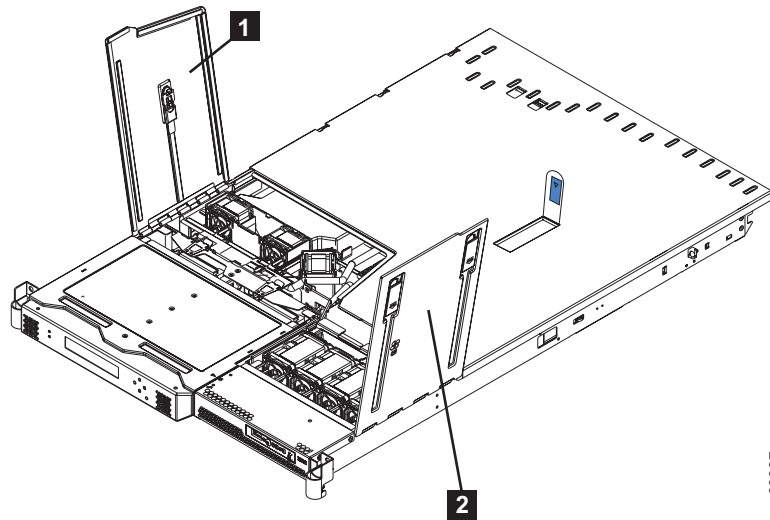

Figure 47. SAN Volume Controller 2145-8F2 with fan doors open
3. Open fan door A **1** of the SAN Volume Controller 2145-8F2. See Figure 47.